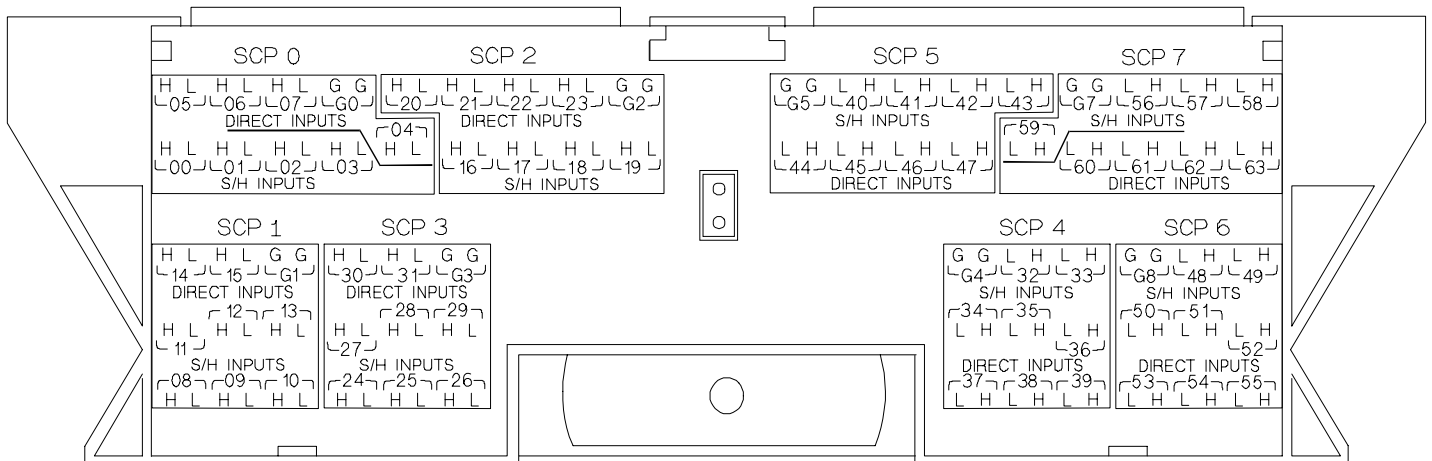

Figure 5 HP E1413 Option 20 Terminal Module Connections
- For HP E1413B and below Terminal Modules, use stickers for HP E1413 Option 20 SCPs. The connections are shown in Figure 5.